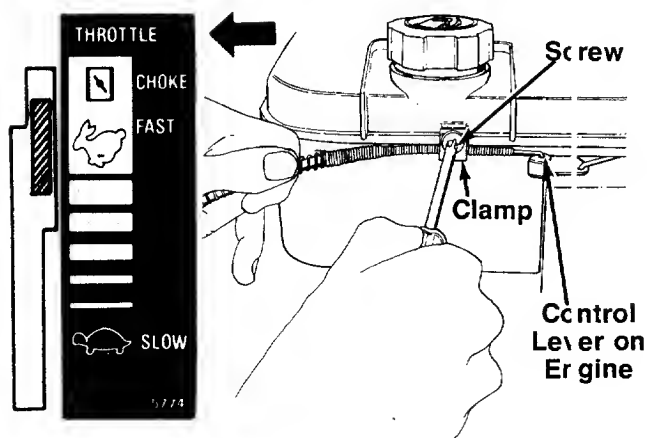

FIGURE 6B.—Models 414R & 424R
1. Push the throttle control lever on the handle all the way forward to **CHOKE**, then back it off **two "clicks"** (approximately 5/16"). See figure 6B.
2. The throttle control cable is attached to the upper handle. Route the throttle control cable under the lower handle and inside the handle mounting bracket. Hook the "Z" end of the throttle control cable into the hole in the control lever on the engine. See figure 6B.
3. Using a screwdriver, remove the screw on the cable clamp shown in figure 6B. Slip the control cable under the clamp. Replace the screw, but do not tighten (cable must still move freely beneath the clamp).
4. Push the control lever on the engine as far toward the **rear** of the engine as it will go. See figure 6B. Pull the throttle control cable toward the rear of the engine to remove any slack in the cable as you tighten the screw.